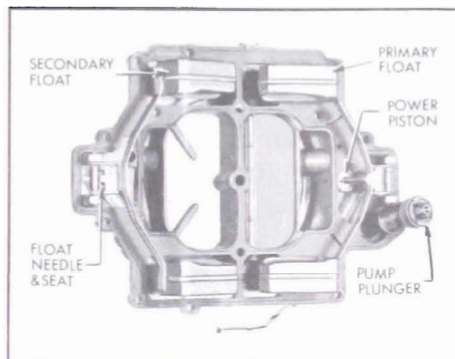

Figure 3-63—Air Horn Parts
plunger, and vacuum power piston which are attached to air horn. See Figure 3-63.
7. Remove float hinge pin, float needle, needle seat, and gasket from side opposite pump (secondary). Then remove needle seat strainer. See Figure 3-63.